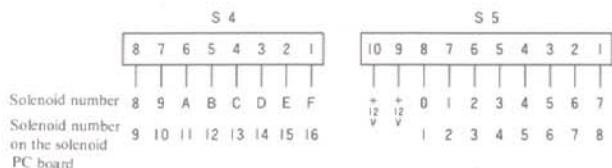

Figure 9-2
- ② Check the resistance between pin 9 or 10 of the S5 connector and the pin of the connector which corresponds to the unenergised armature. (Refer to figure 9-2. In picture 9-1, there is a problem in pin 10 of S5 or pin 9 and pin 4 of S4). Resistance should be within  $140 - 150 \Omega$ . If it is not, there is a problem, which may be found with the check given below. If no problem is found in the resistance values, perform the check given in 9.5.